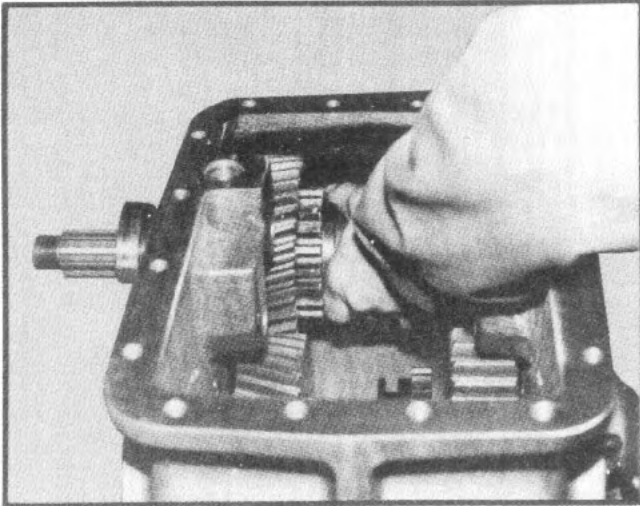

Fig. 18
2. Slide the clutch gear into the stem gear clutch teeth (See fig. 18).